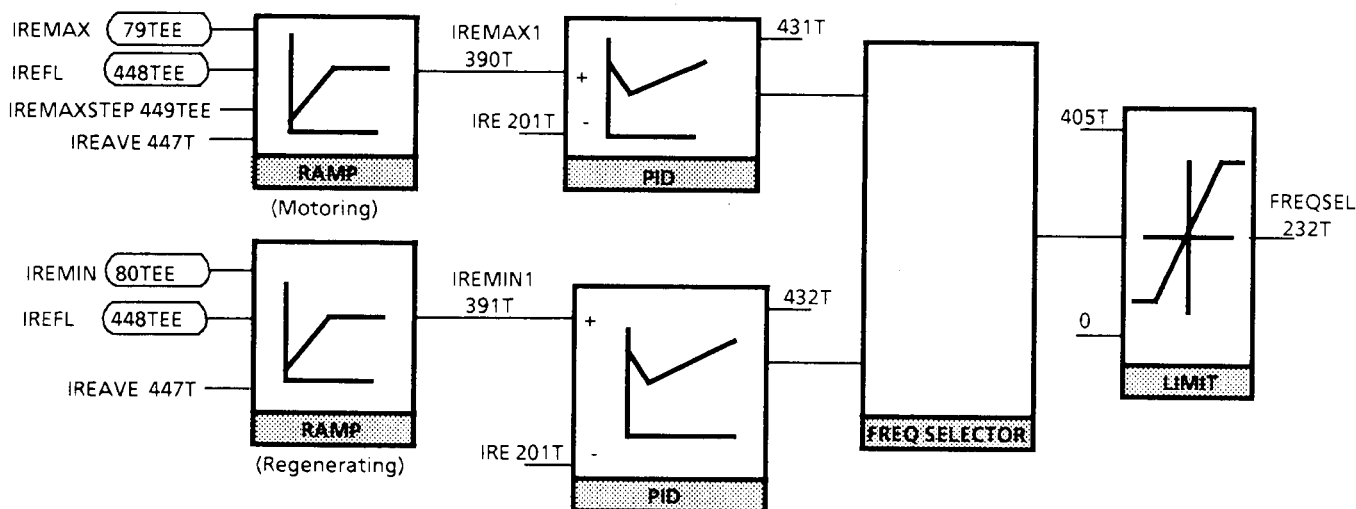

Figure 4-6. Torque Limit Controller (Refer also to Fig. 3-6)
There are two controllers, one for motoring and the other for regenerating conditions (Figure 4-6). The controllers are proportional plus integral (PI) type controllers in which the frequency is controlled on the basis of the torque value. The torque value is the active motor current component which is directly proportional to the torque when excitation is kept constant by means of Volts/Hertz control.